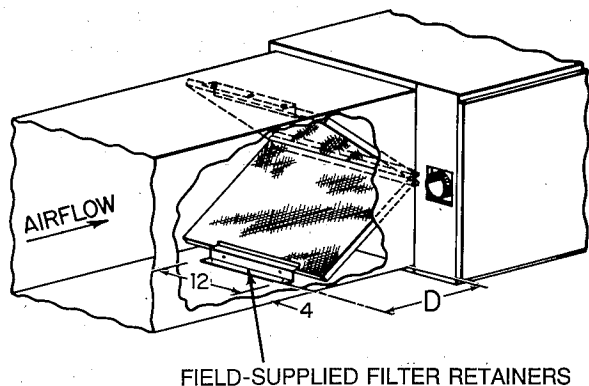
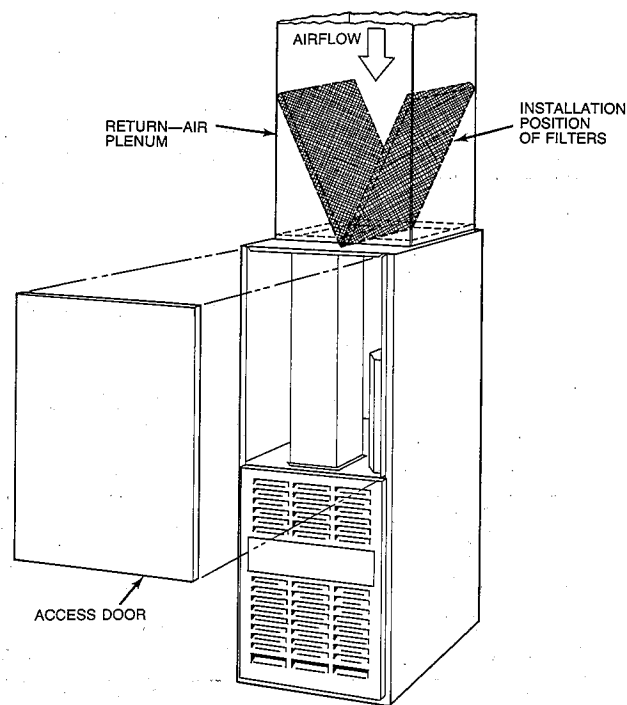

Fig. 8—Horizontal Filter Arrangement
Fig. 9—Position of Filters
- a. Install field-supplied filter retainers as indicated in Fig. 8 and Table 4 before connecting return-air duct to furnace.
The 2 factory-supplied filters are shipped in the blower compartment. After the return-air duct has been connected to the furnace, install the filters in a V-formation inside the return-air plenum. See Fig. 8 and Table 4 for horizontal applications. Horizontal filter retainers must be field-supplied. See Fig. 9 for downflow applications.